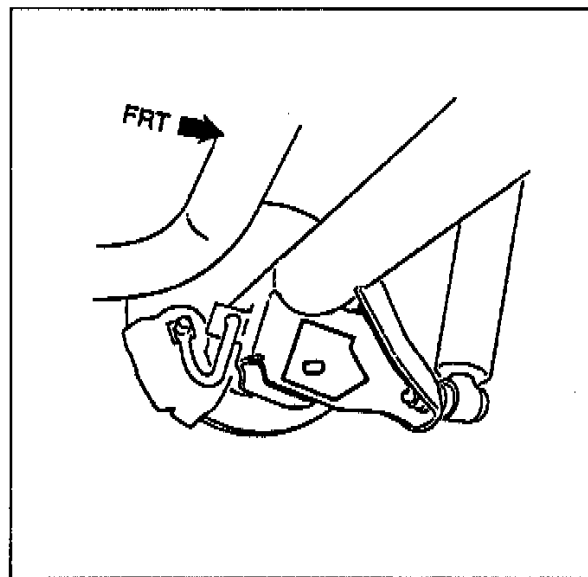

Figure 2
7. Position template on inboard surface of axle control arm bracket as shown in Figure 2. Align hole in template with hole in bracket and insure bottom edge of template is parallel to bottom edge of bracket.